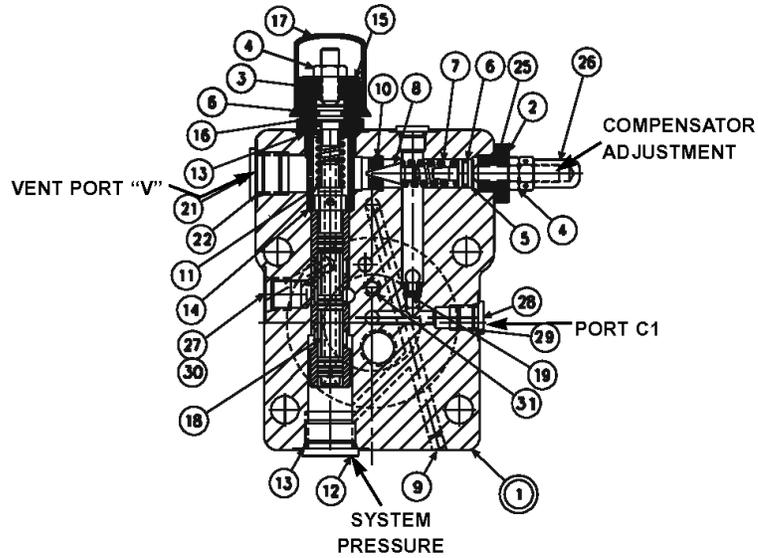
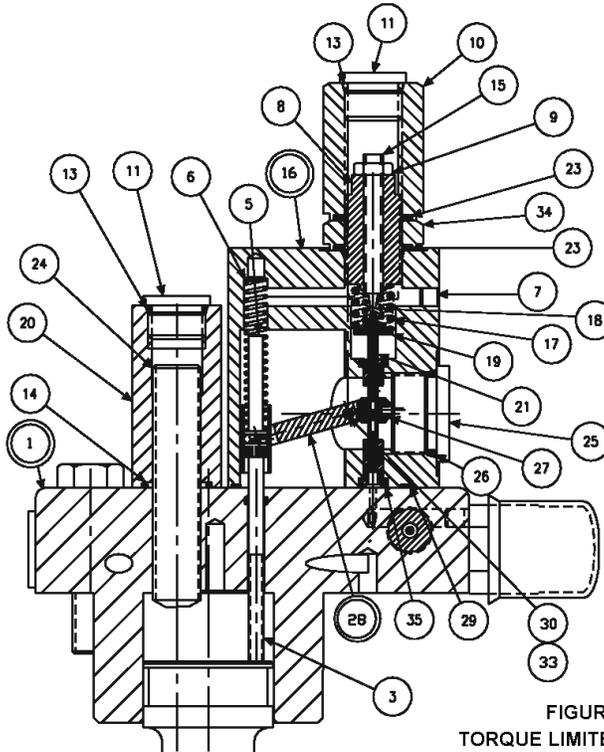

FIGURE 28
FIGURE 29
**PARTS LIST FOR FIGURE 28**
PARTS LIST FOR FIGURE 29
1. See figure 29. Remove 2 screws holding torque limiter body (16) to cap assembly (1).
2. Remove all parts from torque limiter body (16) except pin (30) and arm assembly (28). It is not necessary to remove these parts unless broken or worn. Examine parts for wear or damage.
3. Remove screw (3). Examine head for excessive wear, and body for smooth sealing surface with O-ring.
4. See figure 28. Remove maximum volume stop assembly (items 11, 13, 14, 20, 24).
5. Remove cap assembly (1).
6. Remove plug (15) and attached parts. Remove spring (11) and spool (18).
7. Remove adjusting plug (2) and attached parts. Remove seal piston (5). Note: a 10-24 screw may be attached to assist in pulling the piston. Remove spring (7) and cone (8).
8. Do not remove sleeve in body (1). Sleeve is pressed into cap and finished to size. If sleeve, snout or cap is worn, replace the cap-sleeve assembly (1).
9. Examine seat (10) for wear. Do not remove unless damaged.
1. See figure 28. Install Avseal plugs (9), plug (19), .032", 0,81 mm orifice (30).
2. Press seat (10) into bore squarely against shoulder in bore.
3. Install spool (18) into bore as shown. Install spring (11) over end of spool. Install O-ring (6) on seal piston (16). Lubricate and install into plug (15). Install O-rings (13) and (14) on plug (15) Install plug (15) into cap. Install screw (3), nut (4) and cover (17).
4. Install O-ring (6) on seal piston (5).
5. Lubricate O-ring and install cone (8), spring (7) and seal piston into bore in cap (1), being careful that cone enters seat (10). Install adjustment plug (2), screw (25), nut (4), and acorn nut (26).
6. Install plugs (12), (21) and (28) and torque.
7. Carefully install O-ring (31) into the cap.
9. Install maximum stop screw (24), nut (20), O-ring (14) and plug (11) with O-ring (13).
10. See figure 29. Apply thread locking compound on threads of screw (3), lubricate the shank, thread through the cap into the control piston, and torque to 5 lb.\*ft., 6,78 Nm.
12. Press dowel (30) into body (16), through the link assembly (28), to 1/4", 6,35 mm below surface. Apply hydraulic sealant to threads of screws (33) and install over dowel (30).
13. While sleeve (27) is engaged into dowel on link (28), slide spool (21) into bore of body (16), and through sleeve (27). Spool (21) must move freely and easily at all positions of the link (28).
14. Assemble remaining parts per drawing. Torque plug (11).
15. While spring retainer is engaging clevis pin (5) under dowel of link (28), slide the other opening of spring retainer over the top of the screw (3). Attach body assembly (16) to cap (1) and torque assembly screws to 75 lb.\*ft., 102 Nm.